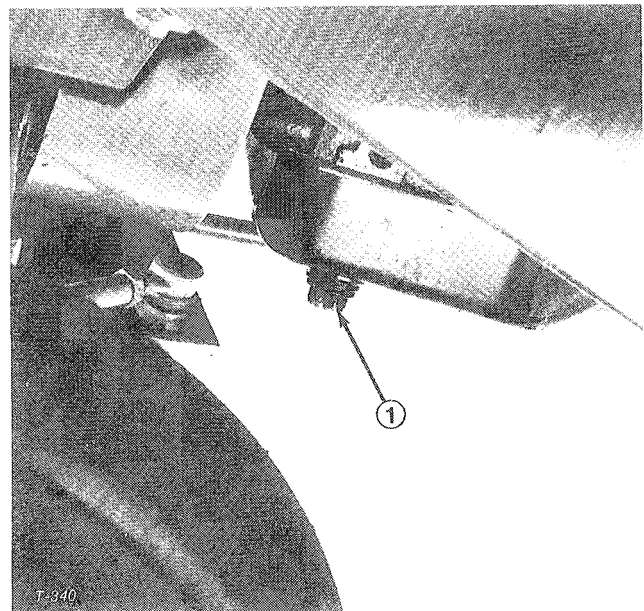

Figure 42
2. Disengage hood latch and open the hood. Set drain pan under the housing and in line with drain plug (Fig. 42).